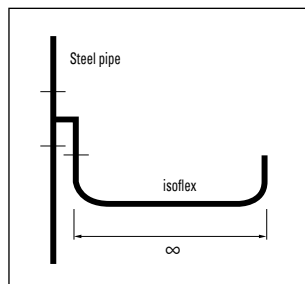

fig. 2
- When connecting to a parallel branch as shown in fig. 2, there are no limitations on the length of the isoflex pipe.